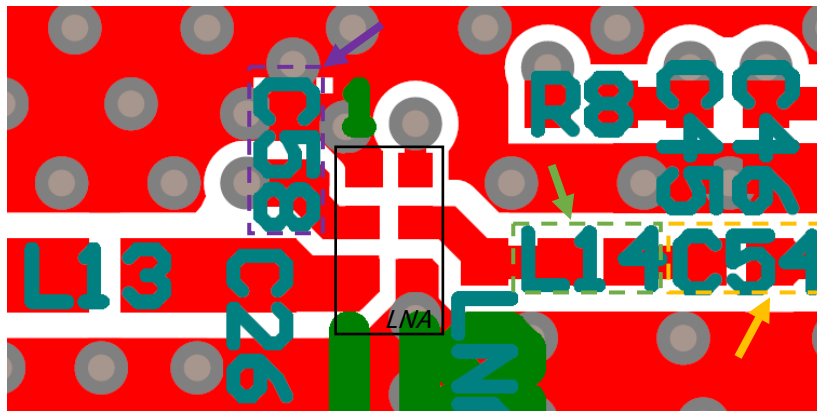

Figure 28: External LNA Implementation
- **Passive antenna:** An external LNA Infineon BGA52N6, shown in Figure 28, is present on the GNSS RF to allow optimum sensitivity in passive antenna implementations.